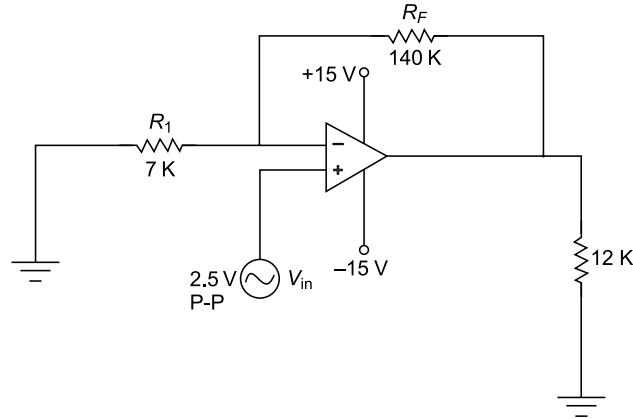

Fig. 3
6. (a) An *N*-channel JFET amplifier with a voltage divider biasing circuit as shown in Fig. 3 has the following parameters: $V_P = -4$ V, $I_{DSS} = 4$ mA. Calculate the value of drain current at the operating point. Verify whether the FET will operate in the pinch-off region. 7
7. (a) Obtain the closed loop gain, CMRR in dB and maximum operating frequency for the non-inverting amplifier shown in Fig. 3 whose common-mode gain is 0.003 and slew rate is $0.2 \text{ V}/\mu\text{s}$. 5